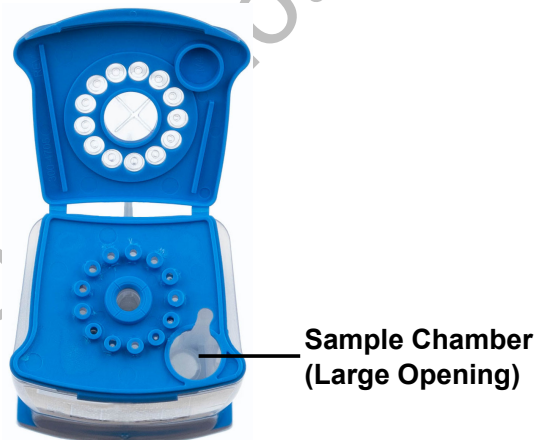

Figure 12. Xpert Xpress CoV-2 plus Cartridge (Top View)
11. To transfer the sample to the cartridge, squeeze the top bulb of the pipette completely again until it is fully flat to empty the contents of the pipette (300 μ L) into the large opening (Sample Chamber) in the cartridge shown in Figure 12. Some liquid may remain in the overflow reservoir. Dispose of the used pipette.